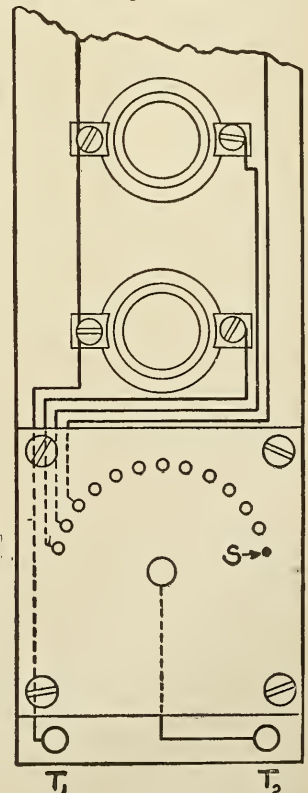

FIG. 70
from some one-inch oak a piece five feet long and six inches wide. Now mount the lamp sockets on one end of this board four inches between centers with all the terminals projecting to the right and left as partly shown in Fig. 70. Connect one side of all these sockets together with a No. 14 copper wire, removing the insulation from the wire only at the points it is fastened under the screws.
wooden base so that its upper surface is on the same level as the top of the screw heads. A stop should be placed in the position marked (S) Fig. 70 to prevent the handle being turned completely around.
Now mount this special switch on four short pedestals under the corners, on the same board you mounted with the lamp sockets, and arrange to make the following connections. Two binding posts ( $T_1$ ) and ( $T_2$ ) Fig. 70, can be mounted on the main base that will serve as terminals for the rheostat. Connect one of these binding posts to the lead common to all of the lamps. The other binding post should be connected to the bolt in the center of the switch with a flexible lead. The free terminals of the various lamps should now be connected in regular order to the back end of the screws in the special switch base. When all the lamps are in place you can vary the number